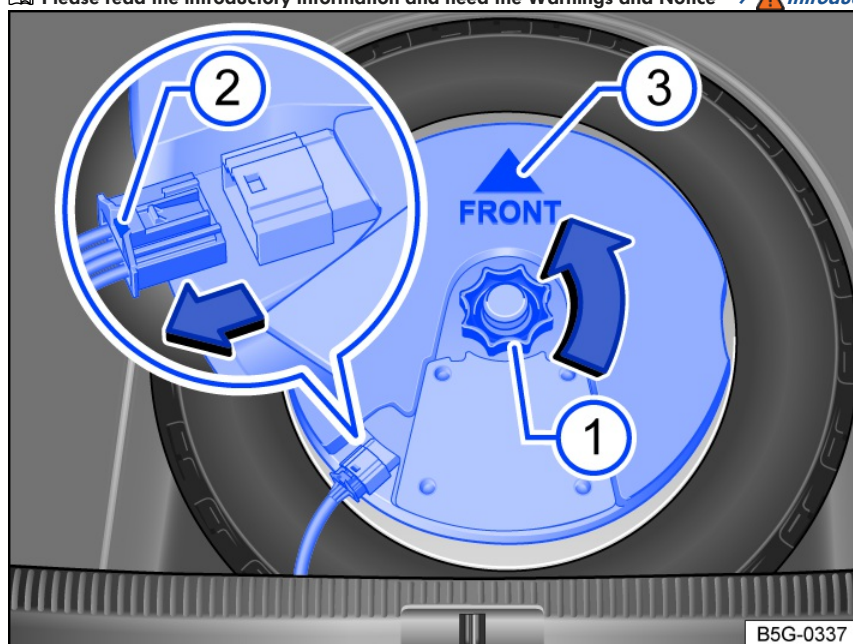

Fig. 170 In the luggage compartment: removing the subwoofer (version 1).
- Place the subwoofer carefully in the rim well. On the subwoofer, the tip of the arrow symbol "FRONT" *fig. 170* (3) must be pointing forward.
- Insert the connector *fig. 170* (2) until you hear the locking mechanism lock into place.
- Turn the handwheel *fig. 170* (1) on the threaded pin in the opposite direction to the arrow until the subwoofer is securely fastened.